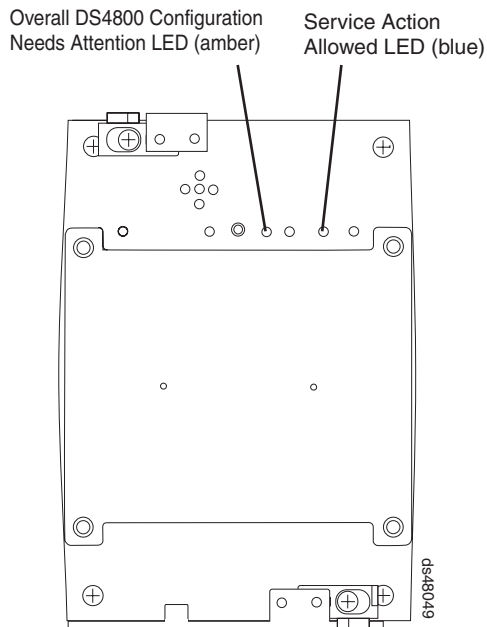

Figure 96. Interconnect-battery unit Needs Attention and Service Action Allowed LEDs
4. Is the Service Action Allowed status LED turned on? (Figure 96 shows the location of the Service Action Allowed status LED on the interconnect-battery unit.)